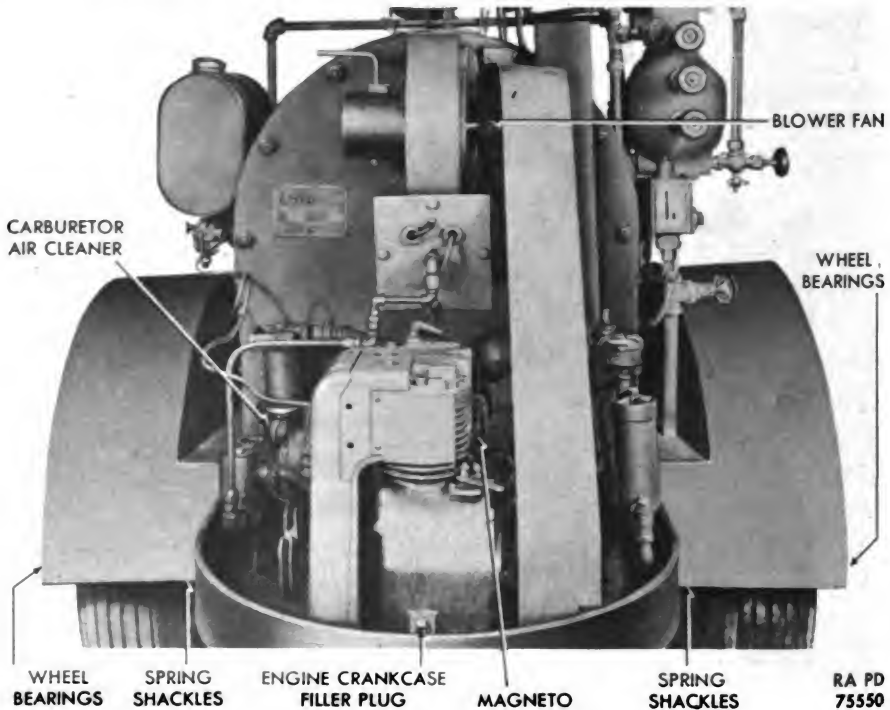

Figure 127 — Lubrication Points of Steam Generating Plant
(1) GENERAL.
- (a) *Spring Shackles* (fig. 127). Every 30 days, unless plant is in
(b) *Wheel Bearings* (fig. 127). Annually, remove wheels and clean all parts in solvent. Dry thoroughly. Repack bearings with GREASE, wheel bearing, No. 2.
(2) *BLOWER FAN* (fig. 127). Every day plant is in use, turn grease cup on blower fan shaft housing down two full turns with fingers. When cup empties, fill with GREASE, general purpose, No. 2.
(3) ENGINE.
(a) *Crankcase* (fig. 127). After 50 hours' operation (following cleaning of lead deposits from cylinder as outlined in subparagraph a (3), above, drain crankcase. Replace drain plug and fill to level of filler plug with engine oil selected in accordance with chart below. Approximate capacity is $1\frac{3}{4}$ pints.
(b) *Carburetor Air Cleaner* (fig. 127). Once a week (oftener under dusty conditions), remove air cleaner oil reservoir. Empty oil from reservoir and wipe reservoir with clean cloth. Fill reservoir to bead with OIL, engine (crankcase grade) (approx. $\frac{1}{4}$ pt). Install reservoir on filter. Periodically, depending on conditions under which plant operates, remove entire air cleaner and wash element in SOLVENT, dry-cleaning. Dry thoroughly and install.
(d) *Magneto* (fig. 127). After every 200 hours operation, fill the two oilers (one on each side of main housing) to overflowing with OIL, engine, SAE 10. It is necessary to remove (par. 80 d (3)) the magneto to reach the oilers on this installation.